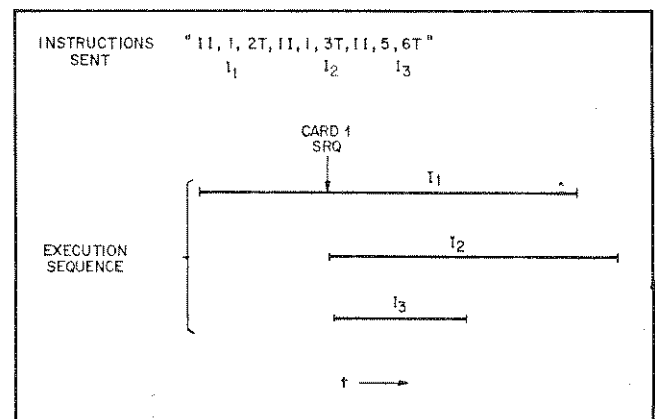

Figure 5-27. Same Card Restriction in Interrupt Instructions
2. Because it doesn't make sense to have a single card executing in more than one instruction simultaneously, when an OI or II instruction is started, all the cards associated with the instruction are checked to see if they are busy with any other instructions (in the serial mode they could only be busy with other interrupt instructions). If any card is busy, the interrupt instruction must wait until the card completes before the instruction will start. In the serial mode, while the interrupt instruction waits, no later instruction can be started. Figure 5-27 illustrates two II instructions (I_1 and I_2) addressing card 1. Note that instruction I_2 will not start until card 1 in I_1 has completed. Since I_2 hasn't started, no later instructions can start.